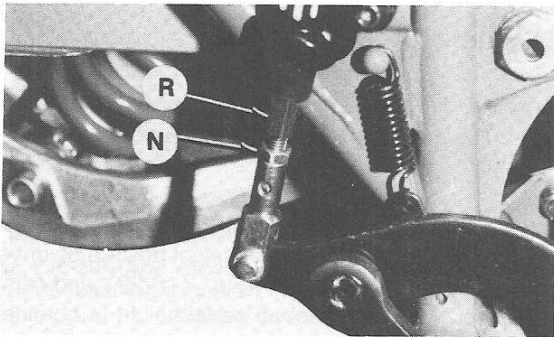

Fig. Y10-29—Loosen locknut (N) and rotate actuator rod (R) to adjust brake pedal height.
BRAKE PEDAL HEIGHT ADJUSTMENT. Brake pedal position should be adjusted to height desired by driver. To adjust, loosen locknut (N—Fig. Y10-29) and rotate actuator rod (R) until desired pedal height is obtained, then tighten locknut (N) to retain adjustment.